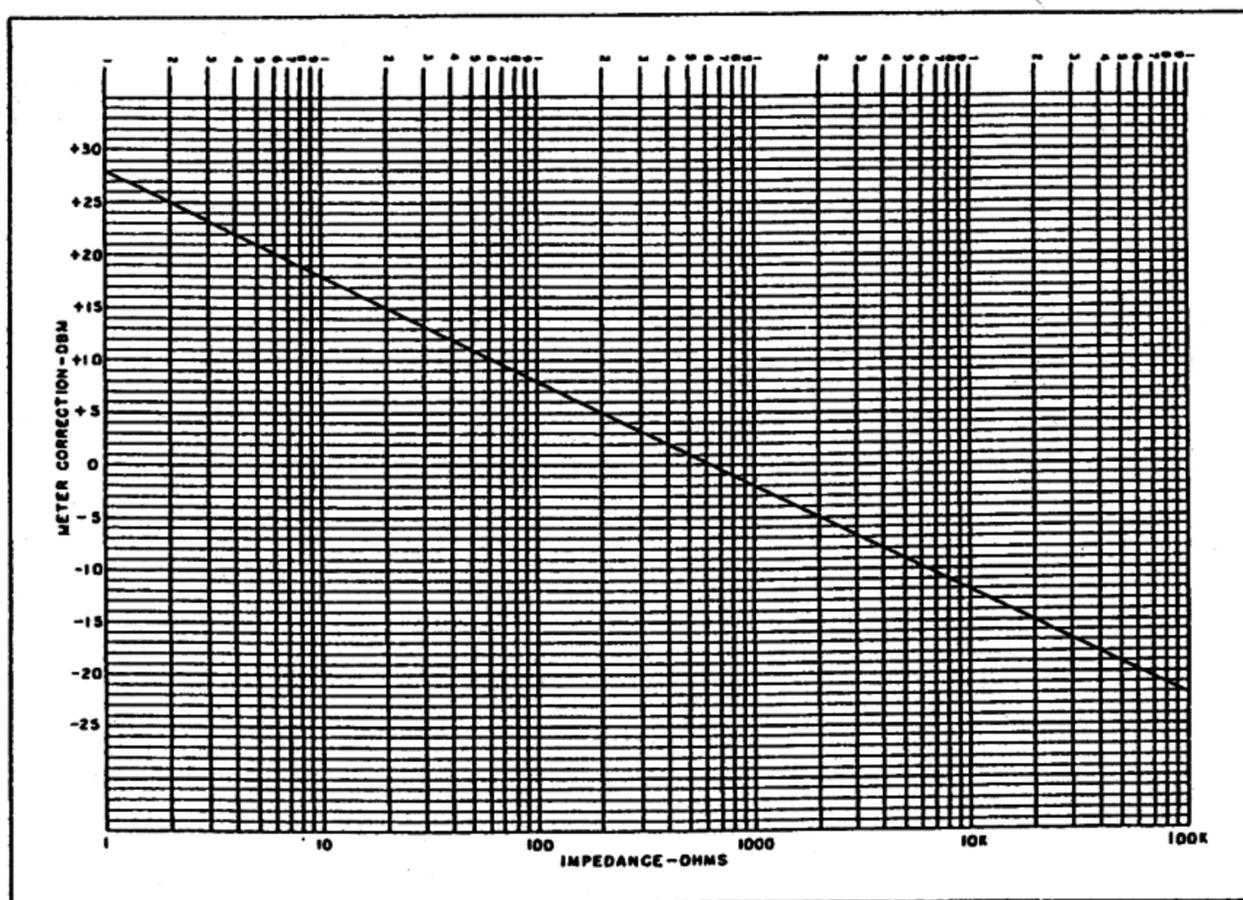

Figure 4. DB and Impedance Chart
- The decibel scale can be used to determine power levels based on 0 DB = 1 MW in 600 ohms. The operation of the Model 209C for decibel measurement is the same as for AC Voltage Measurements. The ranges on the METER used for the various scales are clearly marked on the meter dial with the minus values indicated in red and the plus values in white. Refer to figures 4, 5, and 6 for decibel corrections.